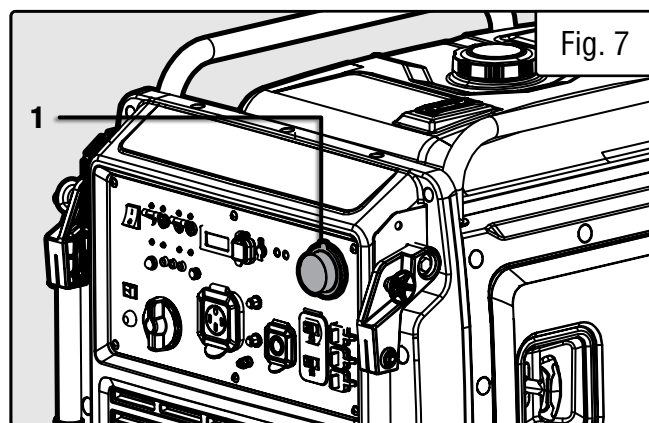

Fig. 7
1. Take off the safety caps from the cylinder valve, the LPG / NG inlet on the generator panel (Fig. 7 - 1), and the regulator connecting hose ends.